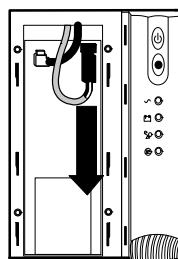

Figure 20 Disconnecting the Internal Battery Connector
- 4 Disconnect the red wire from the positive (+) battery connector (see Figure 20).